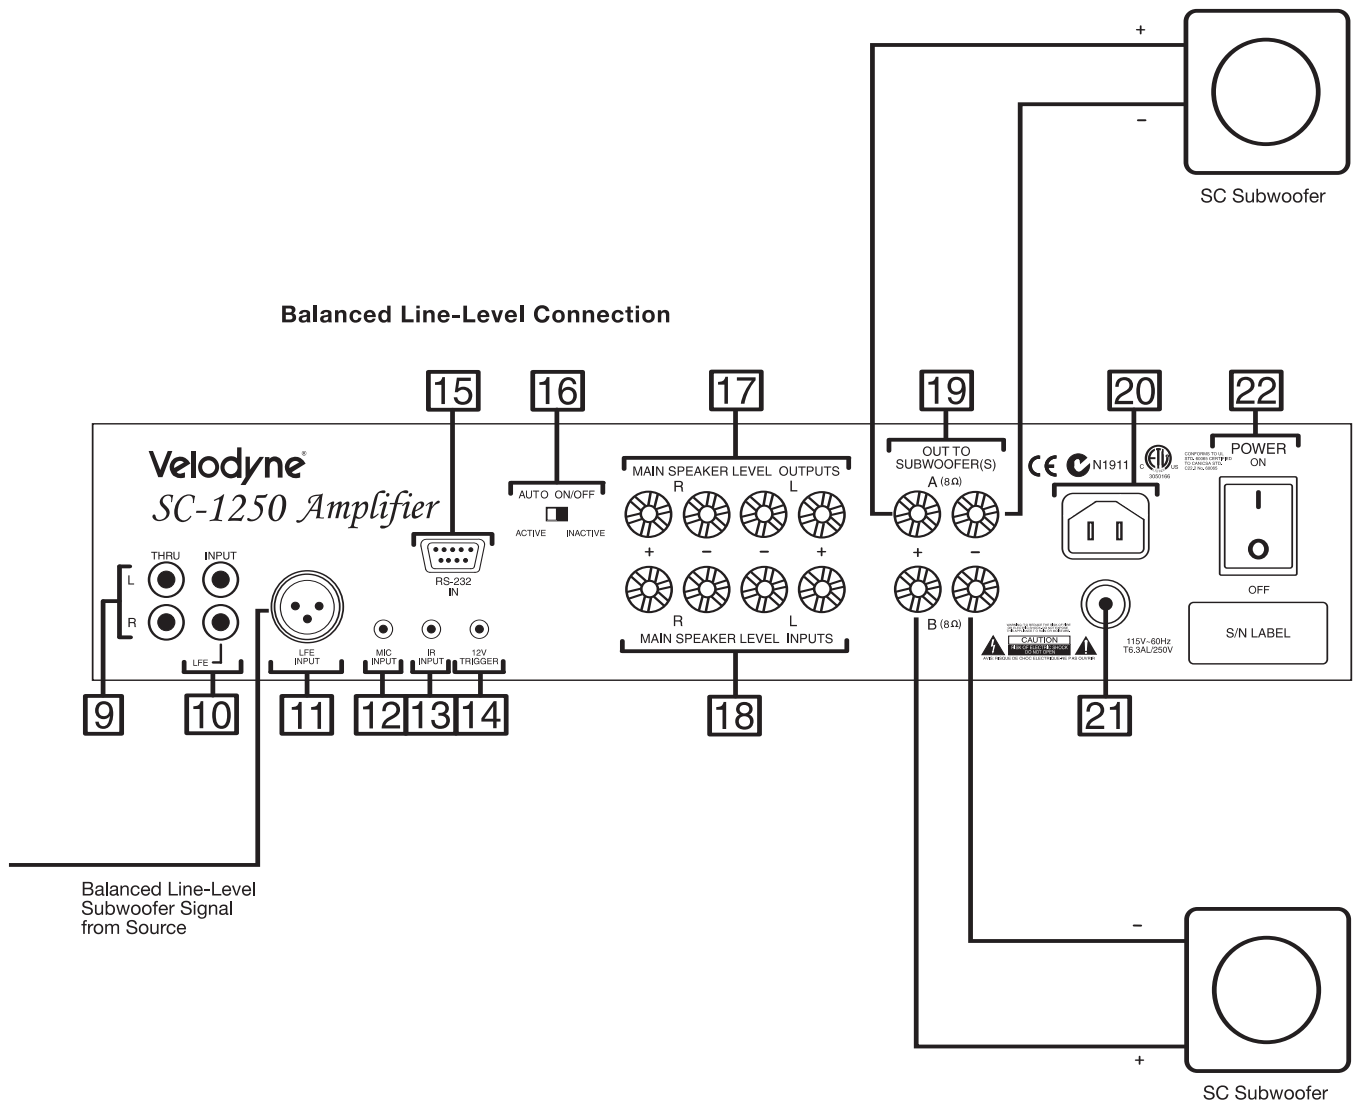

Figure 4: Balanced Line-Level Connection.
(11) Balanced XLR LFE Input (See Figure 4)